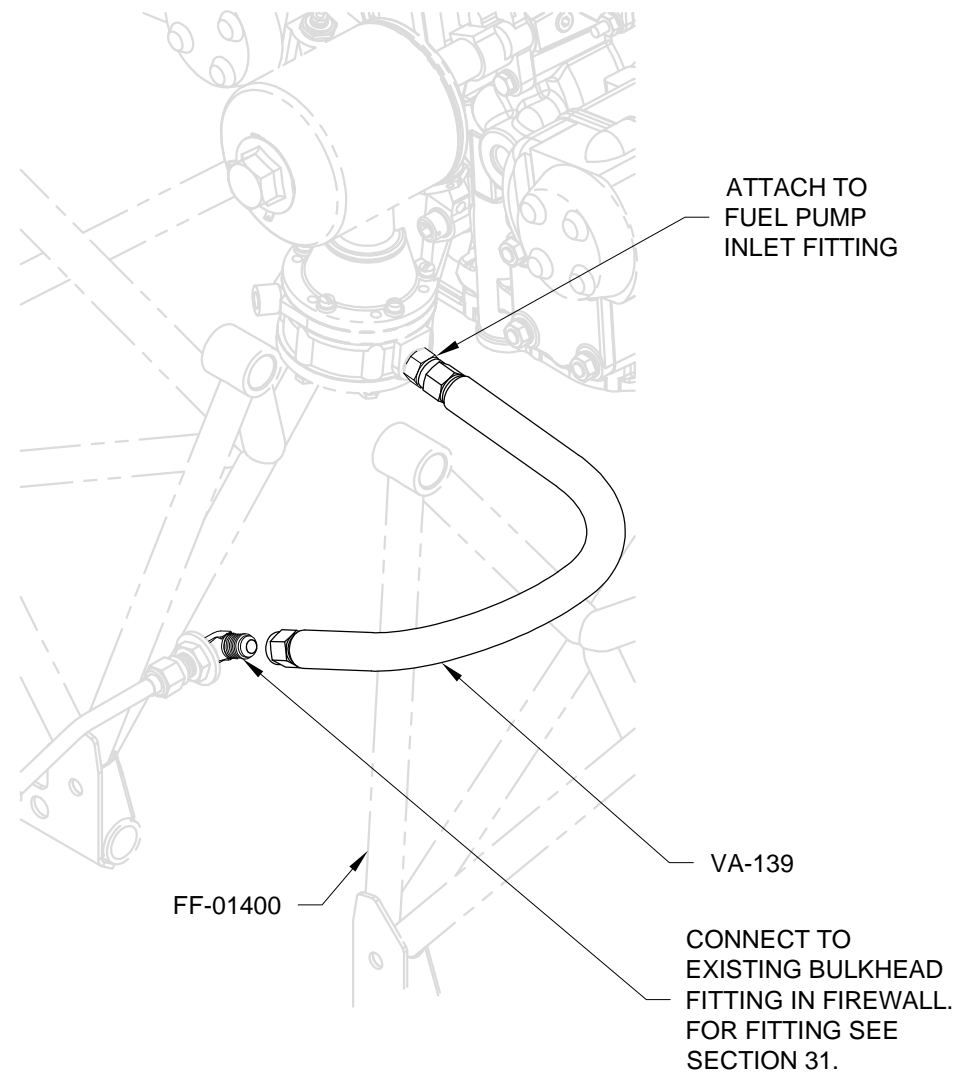

FIGURE 2: FIREWALL TO PUMP
Step 1: (Tri-Gear) Install the VA-139 Hose between the elbow fitting in the firewall and the fuel pump as shown in Figure 2.